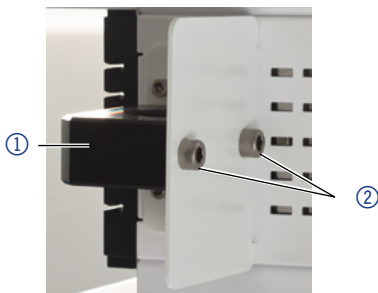

Fig. 13 Column holder with mounting bracket
7. Hold valve head frontally onto the mounting bracket so that the mark ⑤ points up and the groove ⑥ points left (see Fig. 13).
8. Mount the feather key ⑦ pointing to the AZURA® L system onto the groove ⑥ (see Fig. 13).